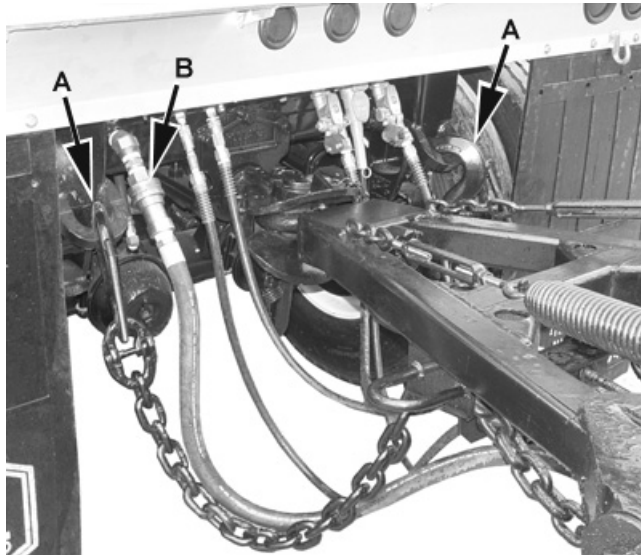

Figure 6-2 Disconnect Hoses And Electrical Connector
4. Disconnect both safety chains (A), hydraulic hose (B), tailgate air hose, pup lock air hose, service glad hand, electrical connector and supply glad hand. See figure 6-2.